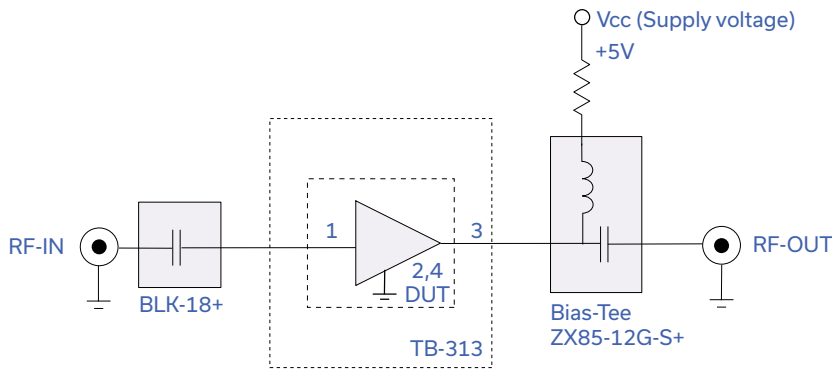

Fig 1. Block Diagram of Test Circuit used for characterization. (DUT soldered on Mini-Circuits Test Board TB-313)
(1) Measured on Mini-Circuits test board TB-313. See Characterization Test Circuit (Fig. 1)
(2) Guaranteed specification DC\*-7 GHz. \*Low frequency cut off determined by external coupling capacitors and RF Choke (RFC)